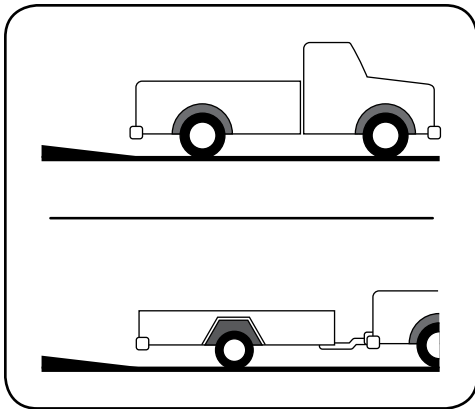

Figure 4-6
3. Face the truck bed or trailer towards a slight incline, which will reduce the steepness of the loading angle by bringing the bottom of the ramps up on the slight incline. See Figure 4-6.